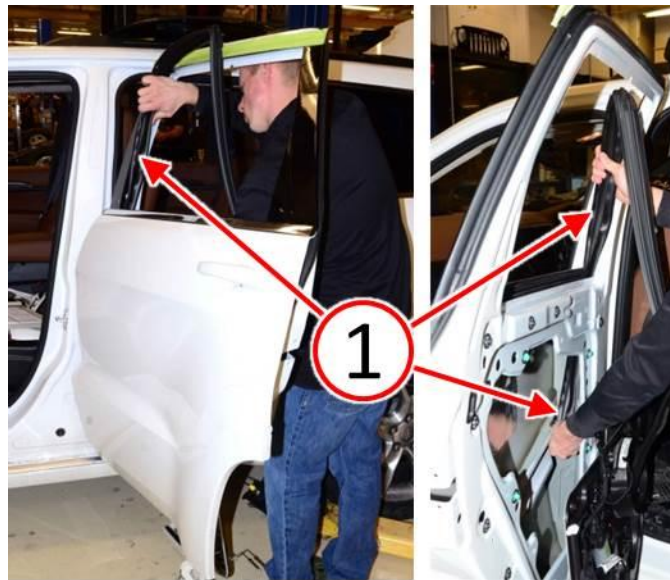

Fig. 18 Install Front Leg Of Door Glass Run Seal
5. Begin the NEW door glass run seal installation by inserting the seal front leg (1) onto the forward door glass run channel (Fig. 18).